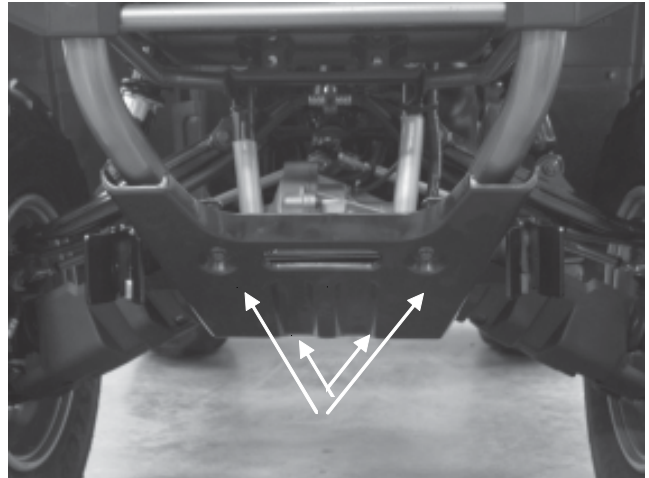

Figure 1
1. Remove front skid with 10mm socket (fig. 1). If needed remove winch and winch plate with front skid.